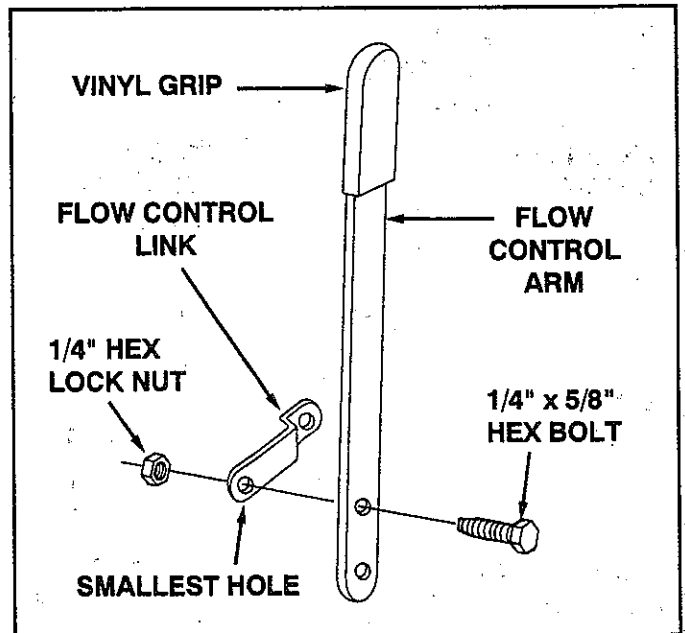

FIGURE 9
- Assemble the flow control link (the end with smallest hole) to the flow control arm using one 1/4" x 5/8" hex bolt and one 1/4" hex lock nut. See figure 9. **DO NOT OVER TIGHTEN, FLOW CONTROL LINK MUST PIVOT FREELY.**
- Place vinyl grip on the flow control arm. See figure 9.